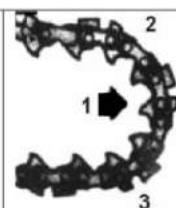

Fig. PP4
3. Install the chain loop over the drive links within the guide bar groove, and then align the chain over the drive sprocket. Make sure the cutters are properly oriented as shown in Fig.PP4.